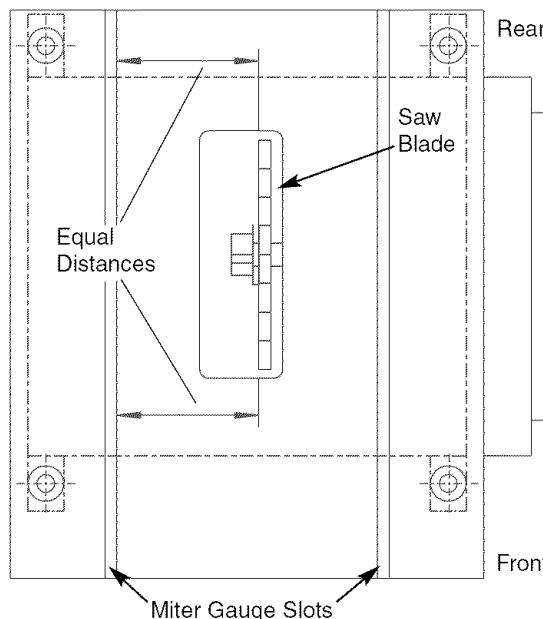

Figure 3 - Aligning Miter Slots to Blade
Refer to Figures 3 and 9, page 22.
- Gauge this tooth with the dowel rod. If the tooth is in the same position, relative to the miter gauge, the table is parallel with the blade. In short, the miter gauge slots must be parallel with the blade. This means that when measuring distance between blade and slot at the front and rear of the blade, the distances will be equal (see Figure 3).
- If an adjustment is necessary, proceed as follows: (Refer to Figures 3 and 9). Loosen the hex head bolts and lock washers (Fig. 9, Nos. 4 and 10) to the cabinet (Fig. 9, No. 11). Shift the table until a position is found where the saw blade is parallel to the miter gauge slots.